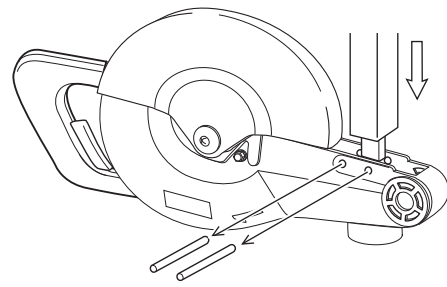

Fig. 5.
- 5) Pressing the block with arbor press, take off the 2 bars. See Fig. 5.